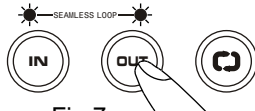

Fig.7
- c- Press OUT/EXIT BUTTON again for new desired ending point of the loop (figure 7).